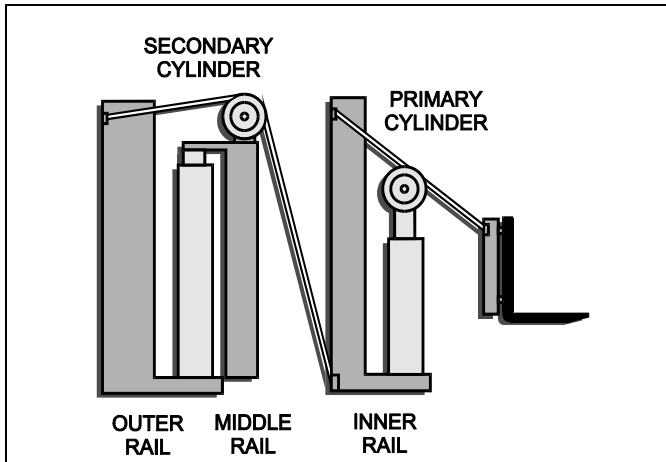

Figure 3-5 Mast in Collapsed Position
Masts are engineered to distribute thrust loads evenly between the rollers and rails. Masts move as a unit, providing maximum strength and endurance for the rated load and consist of up to four pairs of channels or rails (steel beams) rolling one within the other on steel rollers. The outer rails provide guidance and support for the middle rails, which in turn guide and support the inner rails. The truck forks are mounted on a carriage assembly that runs on rollers within the inner rails. See Figure 3-5.
- Free lift, in which only the carriage assembly moves, up to the maximum height allowed by the inner rail. See Figure 3-5.